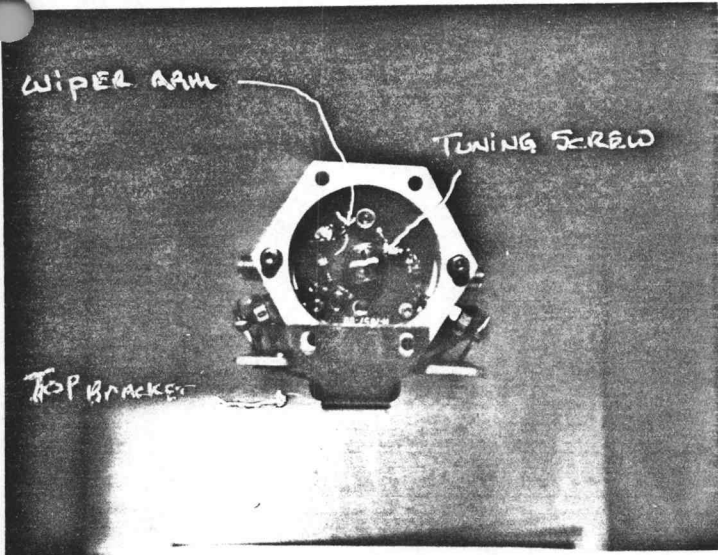

Fig. 2
- A. Install 2nd LO into test fixture (Fig. 2) with top bracket toward you. You should be able to see inside top cavity, and you should be seeing Fig. 2. Hook up power cable.
- B. Hook up 2nd Converter Cable on right (+10db port) and then cable on the left (0dBm port). Turn on power on 492 power supply. The osc should start osc at some freq. W/a screwdriver and curved tweezers, hold the lock nut and turn in the tuning screw until it stops. (Fig. 2) Slowly start backing the tuning screw back out until the freq. counter does something. It should be below 2.0GHz. Keep backing it out until it reaches 2.182 GHz. Temporarily tighten this screw keeping it at the right frequency.
- G. With curved tweezer and screwdriver, check the start range by backing out the tuning screw (Fig. 2) and watching the freq. counter. The spec is that it must go up at least to 2.207GHz and not any further than 2.232GHz. This is 25-50MHz after you reach the point where it turns off, reset the power supply (off and on) to see if it will start there, and then continue turning tuning screw back 1/8 turn at a time to see when the osc starts back up again. This is the start range. To adjust move the wiper arm (Fig. 2) away from the back bracket. If this needs to be adjusted it will affect the power out. Reset it and check this test again.
2. Power out +10dBm port. If it is turned in all of the way, reset the wiper arm until enough power does come out (Note this has a great effect on the start range). Move the arm towards the back bracket (Fig. 2).